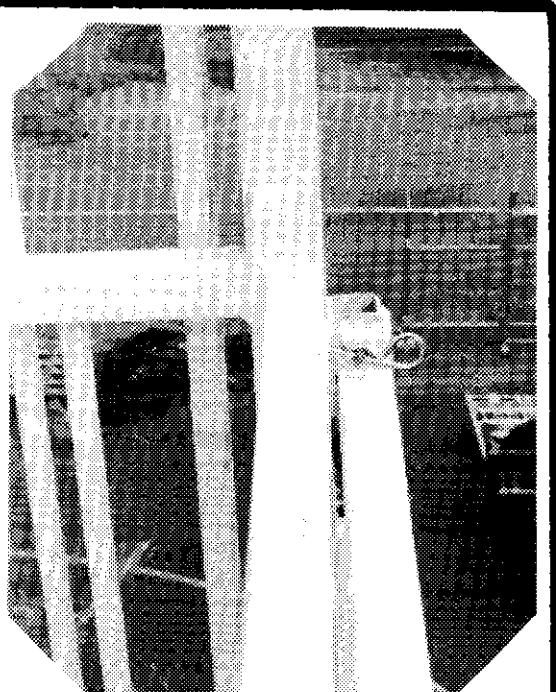

FIG. 31
27. REMOVE RIDGE AND EAVE BARS FOR THE CANOPY, FROM BACK OF FOLDING PLATFORM. Fig. 31